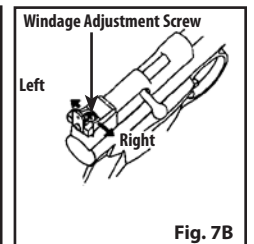

Fig. 7B
- The rear sight may be adjusted to shoot right or left (windage). Loosen the windage adjustment screw by turning it counterclockwise. Move the sight to the right to make the pellet hit to the right on the target. Move the sight to the left to make the pellet hit to the left on the target. Then tighten the windage adjustment screw by turning it clockwise (Fig. 7B).